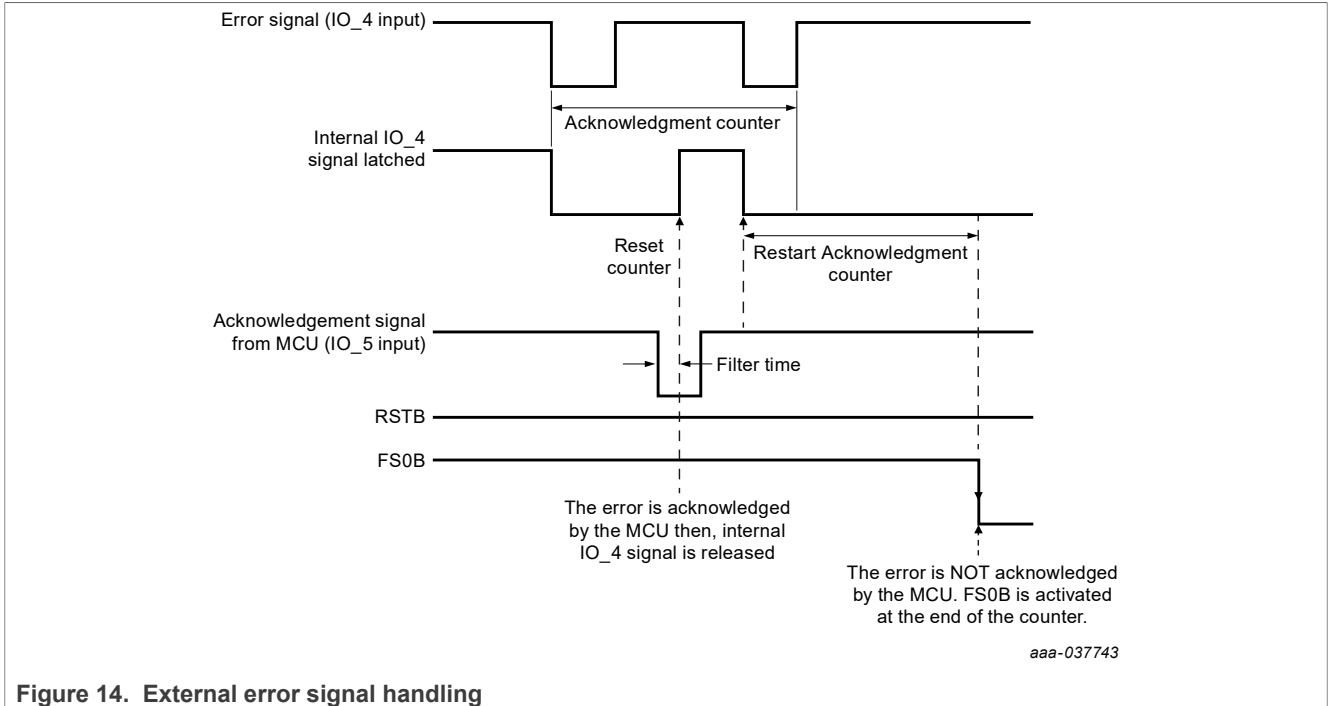

Figure 14. External error signal handling
**Safety purpose:** Digital input (logic level) to perform an IC error monitoring (both IO\_4 AND IO\_5 are used if configured as safety inputs, see Figure 14).